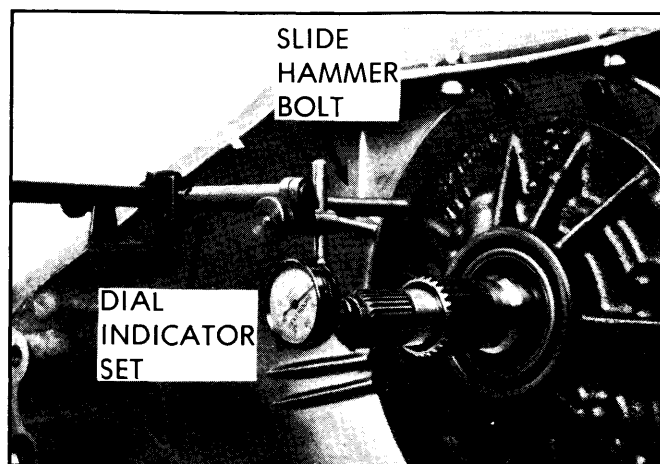

Fig. 7-98—Checking End Play for Proper Thrust Washer Selection
b. Position transmission so that output shaft points down. Install dial indicator as shown in Fig. 7-98. Zero indicator.